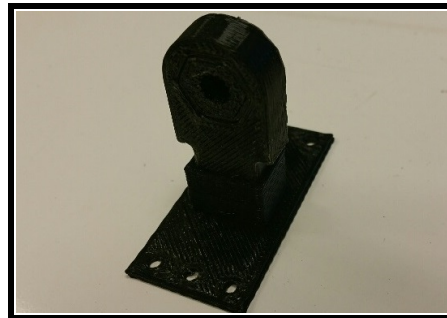

Figure 2.5: Gear Insert inside Bottom Motor Attachment
11. Place the gear insert inside the bottom motor attachment, as in Figure 2.5. *Note:* You may need to sand the sides of the gear insert to make it to fit inside the attachment.